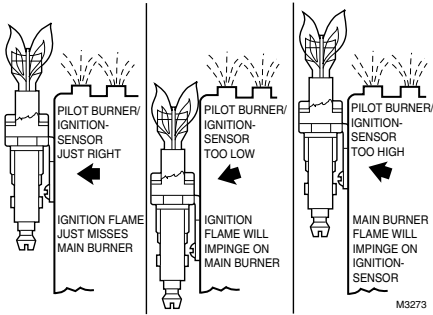

Fig. 2. Location of pilot burner/igniter-sensor.
3. Mount the pilot burner/igniter-sensor so that the pilot flame remains properly positioned with respect to the main burner flame. See Fig. 2.